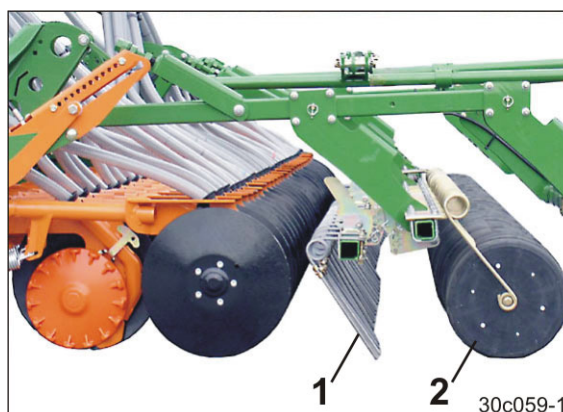

Fig. 86
- Harrow tines (Fig. 86/1)
- Press rollers (Fig. 86/2).